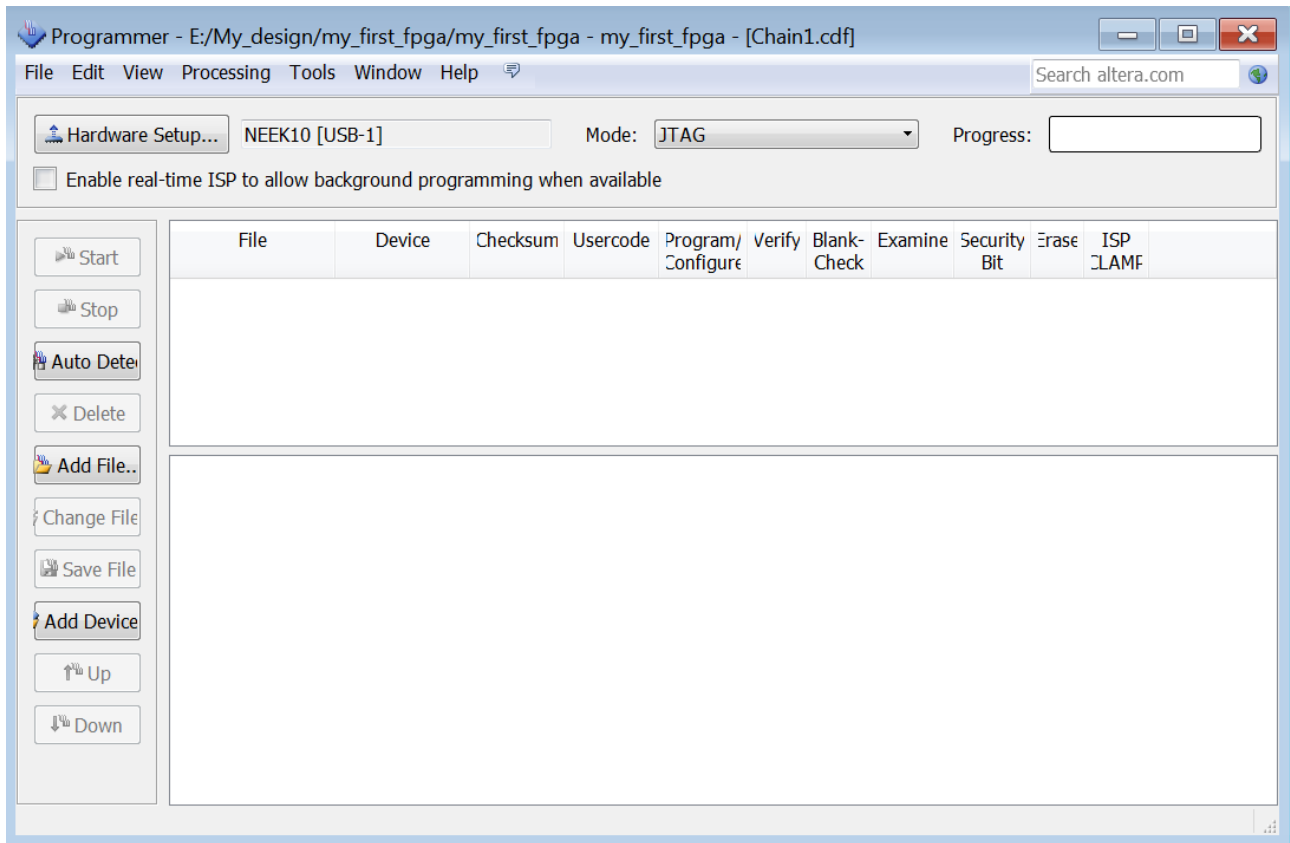

Figure 4-3 Programmer Window
1. Choose Tools > Programmer. The Programmer window opens. See **Figure 4-3**.